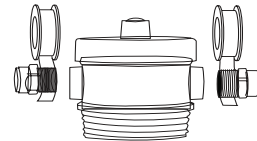

Figure 1
3. Wrap Teflon® tape (2 1/2 wraps) around the 3/4" MNPT x 3/4" fitting for copper pipe in a clockwise direction (see Figure 1) and firmly assemble into filter head. Do not use pipe sealant (dope), as solvents in some types of pipe dope may cause damage to plastic fittings. Do not overtighten, overtightening can cause damage to filter head.